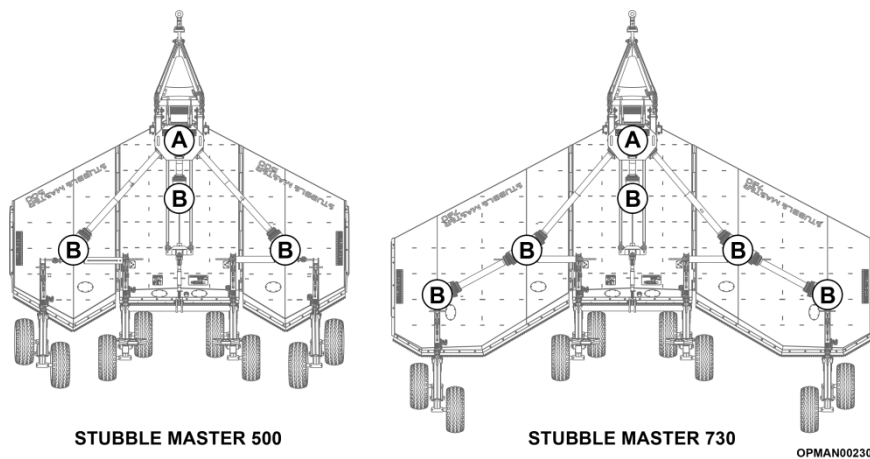
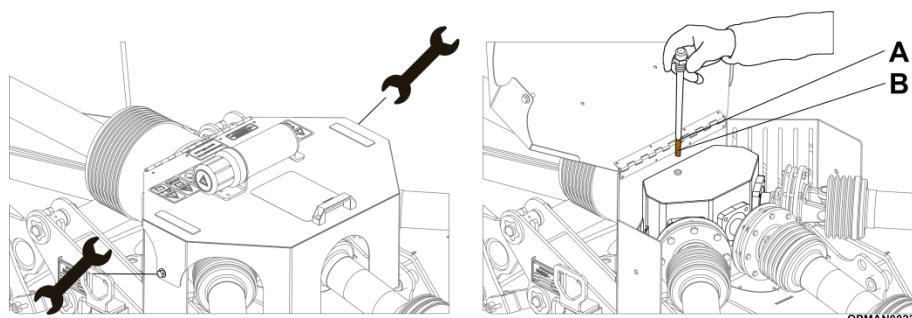

Figure 5.1 - Stubble Master Gearbox Oil Capacity Locations
Figure 5.2 – Stubble Master Oil Dipstick Marks
There are grooves marked in the dipstick with Figure 5.2 (A) showing the upper level and Figure 5.2 (B) showing the lower level.
The gearbox should not require additional lubricant unless the box is cracked or a seal is leaking. It is recommended that the oil level is **checked every day before operation** and additional oil added if it's required to bring it up to the upper level mark Figure 5.2 (A) **before proceeding to use the machine.** The splitter gearbox guard has a cut-out in order to check the oil level without having to open the guard.
Stubble Master splitter box gearboxes (Figure 5.1 (A)) have a guard to protect the casing. In order to check the oil level in this gearbox requires the removal of the two bolts to hinge the guard open to access the gearbox dipstick; see Figure 5.2.